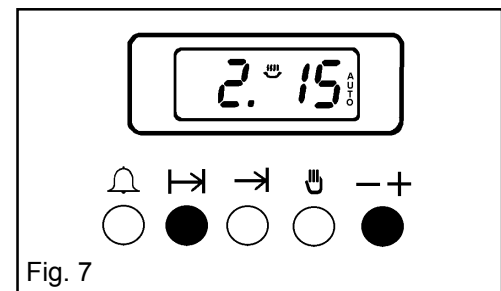

Fig. 7
- iii) To set the length of cooking time, press the cooking hours button (⏸) and while holding it down, turn the increase control (+) until the required length of cooking time is displayed, e.g.2 hrs 15 mins as Fig. 7. If necessary turn the decrease control (-) until the correct time interval is achieved.